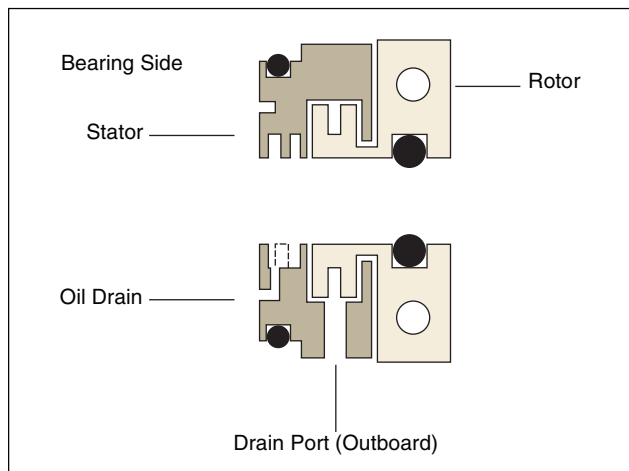

Figure 8-2. Position the Rotor Halves
2. Position the shorter O-ring on the shaft and place the two halves of the rotor, with the flange sides facing away from the bore, over the O-ring so the O-ring fits into the groove (see **Fig. 8-2**). (It might help to first paste the O-ring to the shaft with a light coat of grease.) Then place the screws in the rotor halves and screw the two halves together loosely. Do not tighten the screws.